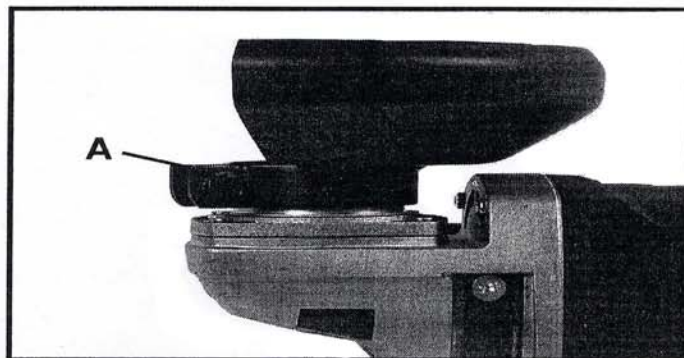

Fig. 3
3. Seat guard onto mounting flange. Rotate the guard to a position that will place the guard between the operator and the grinding wheel (or other accessory requiring a guard). Tighten clamp screw (A) Fig. 3, to secure the guard in proper position.
WARNING: Always make sure the wheel guard is positioned between operator and the wheel, so that flying chips or pieces of a wheel that might break will be deflected away from the operator (see Fig. 3).